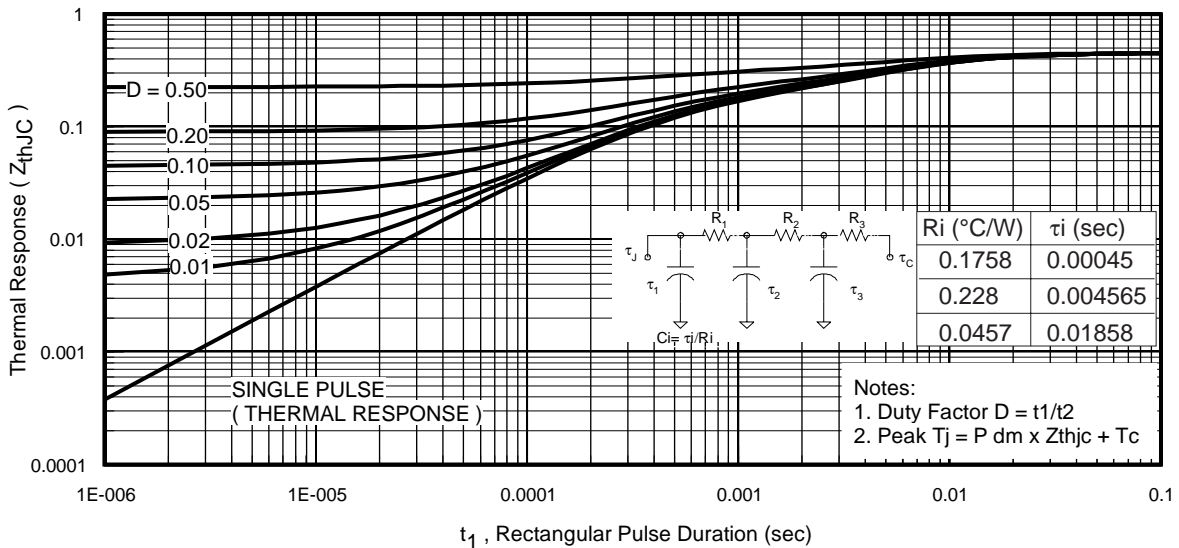

Fig 11. Maximum Effective Transient Thermal Impedance, Junction-to-Case
- ① Repetitive rating; pulse width limited by max. junction temperature. (See fig. 11).
- ② Limited by T_{Jmax}, starting T_J = 25°C, L = 0.17mH
$Z_{thJC}(D, t_{av})$ = Transient thermal resistance, see figure 11)